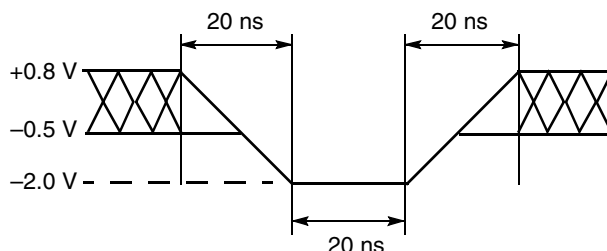
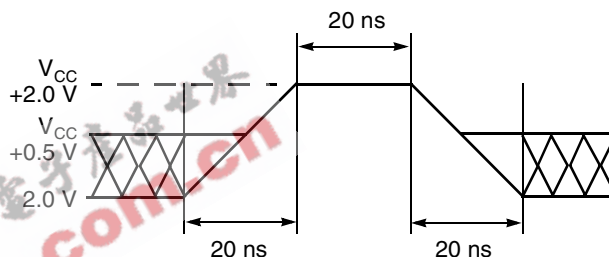

Figure 8. Maximum Negative Overshoot Waveform
Figure 9. Maximum Positive Overshoot Waveform
1. Minimum DC voltage on input or I/O pins is -0.5 V. During voltage transitions, input or I/O pins may overshoot V_{SS} to -2.0 V for periods of up to 20 ns. Maximum DC voltage on input or I/O pins is $V_{CC} + 0.5$ V. See Figure 8. During voltage transitions, input or I/O pins may overshoot to $V_{CC} + 2.0$ V for periods up to 20 ns. See Figure 9.
2. Minimum DC input voltage on pins RESET#, and WP#/ACC is -0.5 V. During voltage transitions, WP#/ACC, and RESET# may overshoot V_{SS} to -2.0 V for periods of up to 20 ns. See Figure 8. Maximum DC input voltage on pin RESET# is +12.5 V which may overshoot to +14.0 V for periods up to 20 ns. Maximum DC input voltage on WP#/ACC is +9.5 V which may overshoot to +12.0 V for periods up to 20 ns.